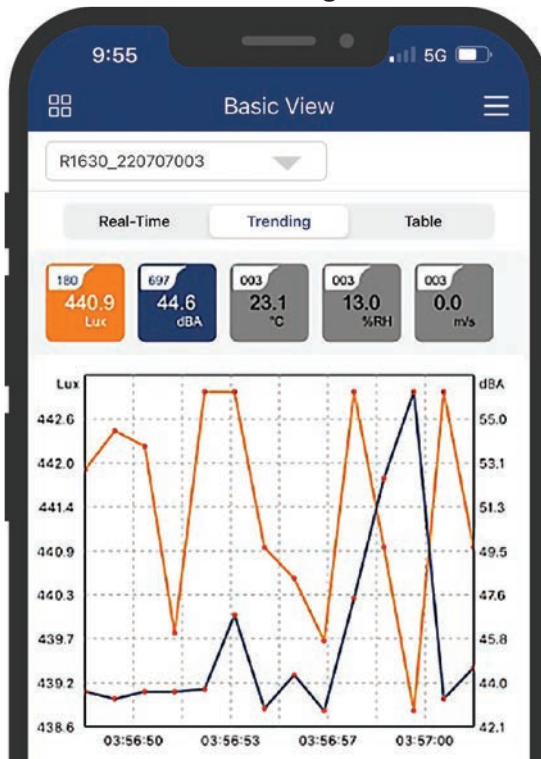

Figure 11
**Trending** – The Record feature must be activated to enable this view (See the *Adjusting the Data Logging Sampling Rate* section of this guide for additional details). Multiple meters can be connected to the app at once, however due to the 2-axis graph setup, only 2 parameters can be viewed in the chart at any given time. (Figure 11)